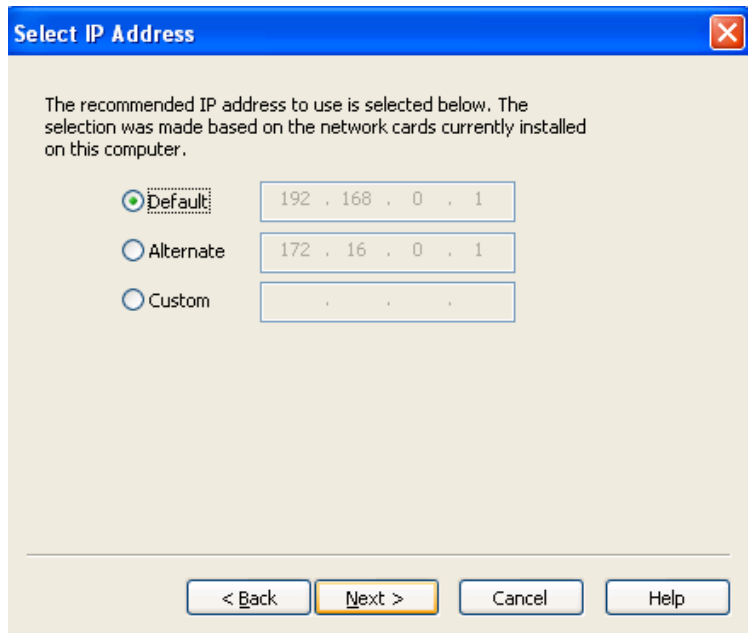

Figure 4: Select IP Address Page
6. Select the instrument network card you want to configure, then click **Next**. The Select IP Address page appears (Figure 4).